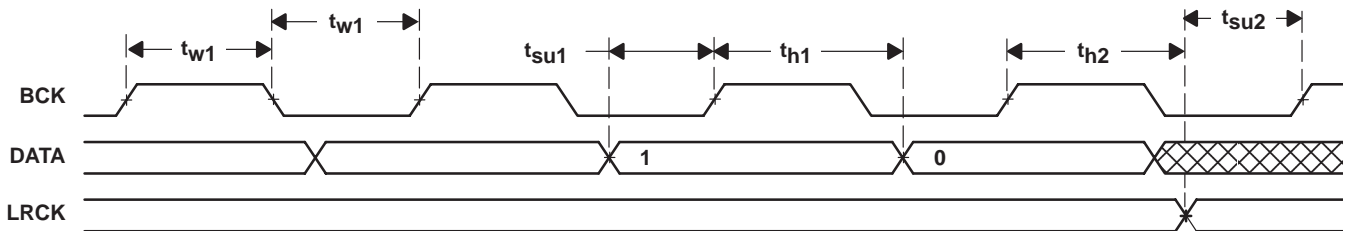

Figure 8. Audio-Data Serial Timing
**timing requirements (see Figures 8 and 9 and Note 6)**